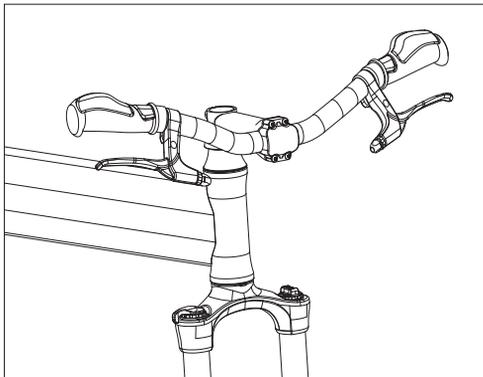
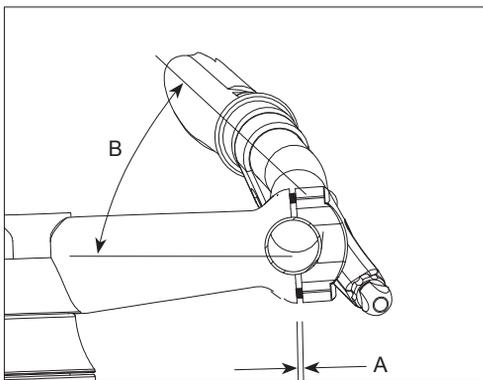

Fig. 14: Tighten screws.
Fig. 15: Set at comfortable angle.
3. Tighten with the provided hex wrench (Fig. 14) to proper torque (page 36). Make sure that the gap between the stem is roughly the same on the top and bottom (Fig. 15, a), and the handlebars are at a comfortable riding angle (Fig. 15, b).